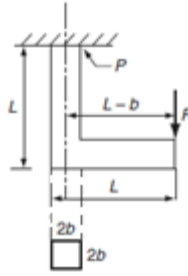

Figure 35 Question 47.
47. For the component loaded with a force F as shown in Figure 35, axial stress at corner point P is